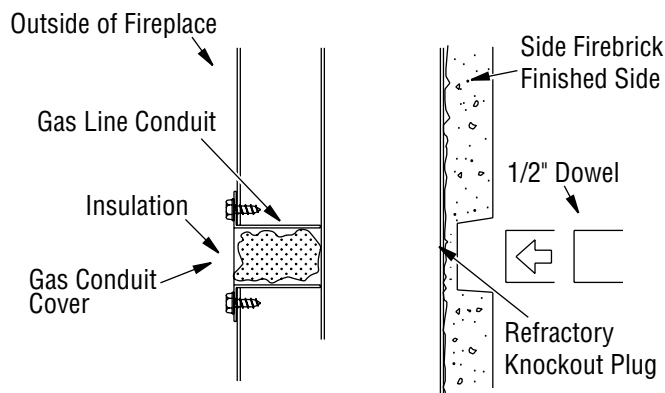

Figure 22 - Gas Line Knockout
1. Remove knockout indentation on refractory or firebrick wall located above refractory hearth floor. Knockout indentation must be firmly tapped with any solid object, such as a 1/2" dowel, until it is released. Remove fragmented portions of refractory (see **Figure 22**).